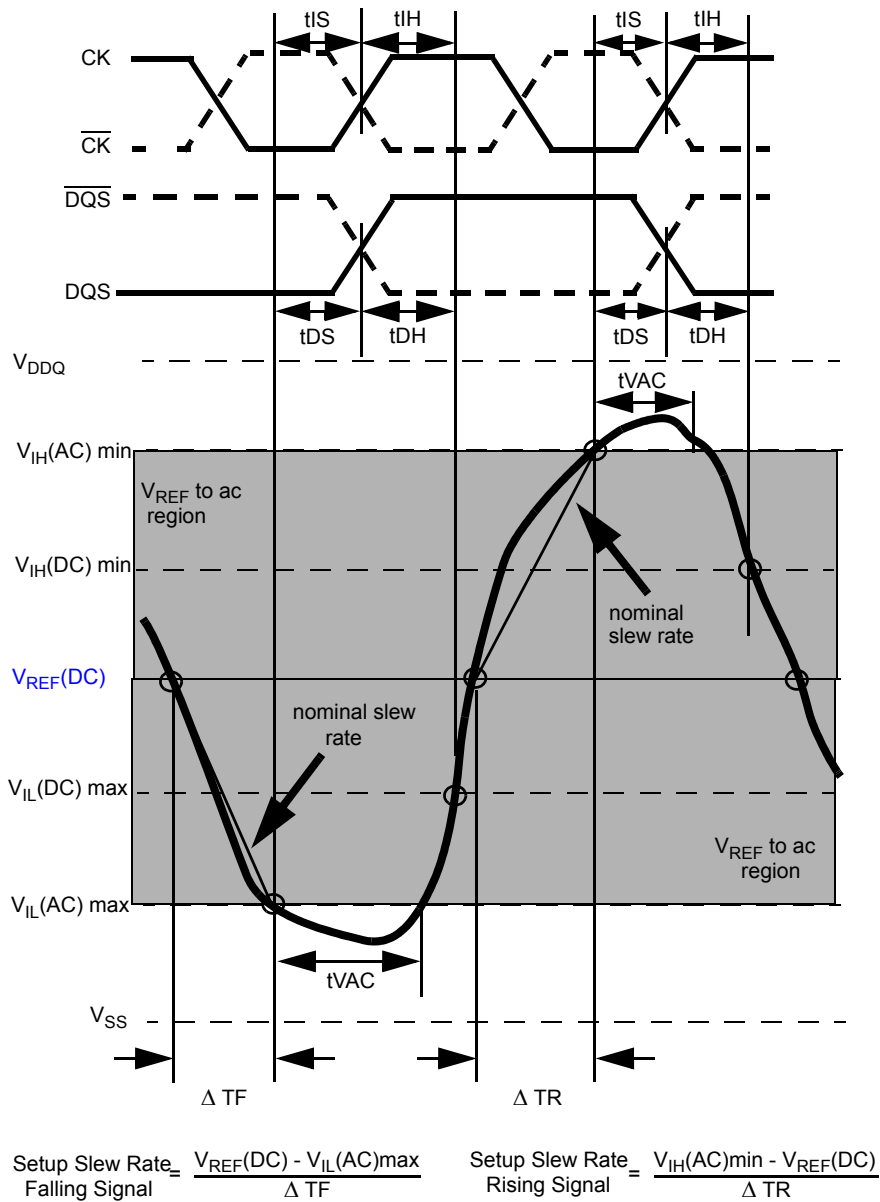
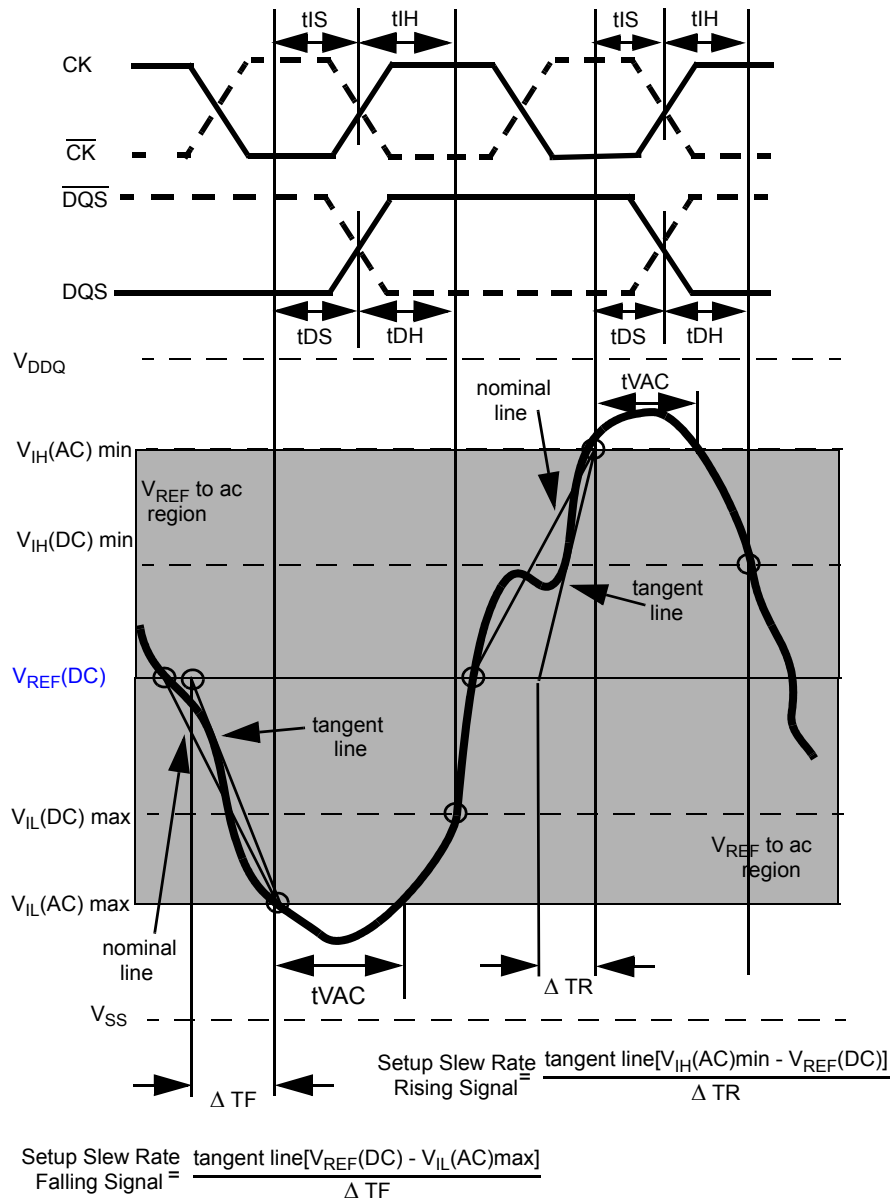

Figure 25. Illustration of nominal slew rate and t_{VAC} for setup time t_{DS} (for DQ with respect to strobe) and t_{IS} (for ADD/CMD with respect to clock).
Figure 27. Illustration of tangent line for setup time t_{DS} (for DQ with respect to strobe) and t_S (for ADD/CMD with respect to clock)
Setup (tDS) nominal slew rate for a rising signal is defined as the slew rate between the last crossing of V_{REF}(DC) and the first crossing of V_{IH}(AC)min. Setup (tDS) nominal slew rate for a falling signal is defined as the slew rate between the last crossing of V_{REF}(DC) and the first crossing of V_{IL}(AC)max (see Figure 25). If the actual signal is always earlier than the nominal slew rate line between shaded 'V_{REF}(DC) to ac region', use nominal slew rate for derating value. If the actual signal is later than the nominal slew rate line anywhere between shaded 'V_{REF}(DC) to ac region', the slew rate of a tangent line to the actual signal from the ac level to dc level is used for derating value (see Figure 27).